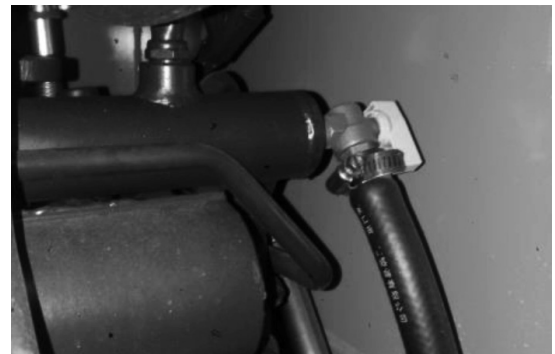

Fig 69
- A. Close the heater water valve; (Fig. 69)